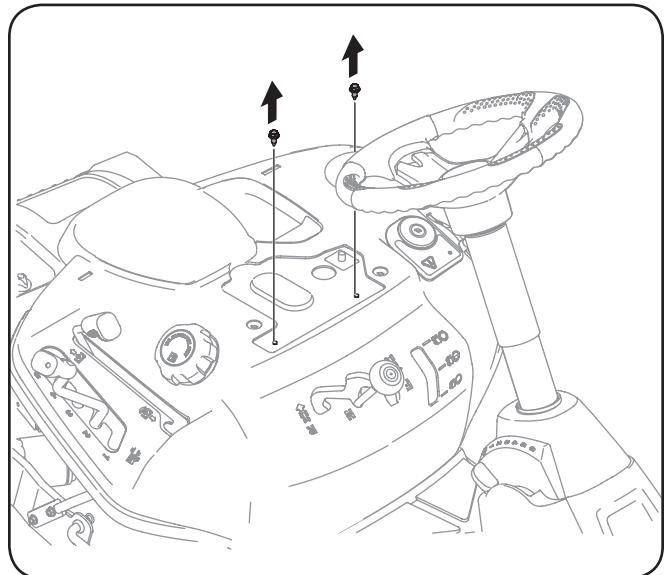

Figure 3-6
2. Remove the two self-tapping bolts factory installed on the tractor. See Figure 3-6.